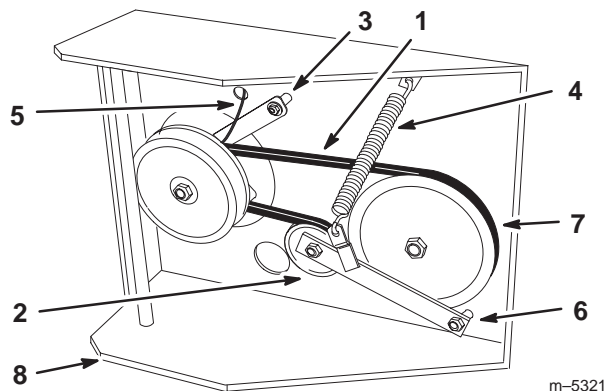

Figure 58
4. Remove clutch retainer from the engine deck (Fig. 58).
5. Unhook tension spring from side of frame (Fig. 58).
8. Torque pivot bolt to 35-40 ft. lb. (47-54 N.m). Install tension spring between idler arm and frame bracket (Fig. 58).
9. Install clutch retainer to the engine deck (Fig. 58).